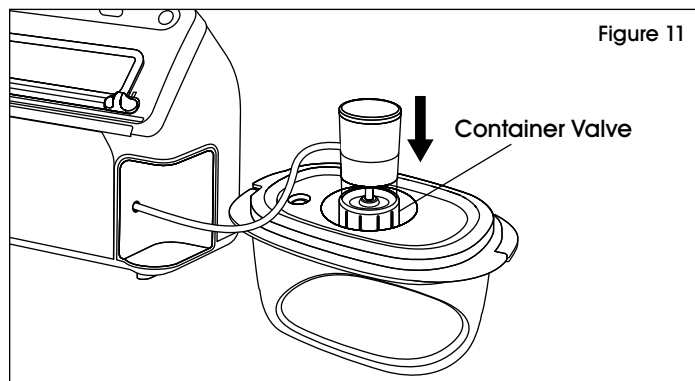

Figure 11
4. Place end of handheld sealer over container valve. (See Figure 11)